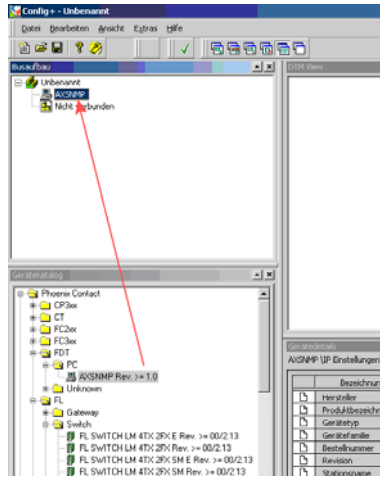

Figure 4-13 Selecting the desired components
1. A virtual PC must be integrated into the project => locate AXSNMP 1.0 in the device catalog under "Phoenix Contact\FDT\PC" and integrate in the bus configuration under the project (see Figure 4-13)